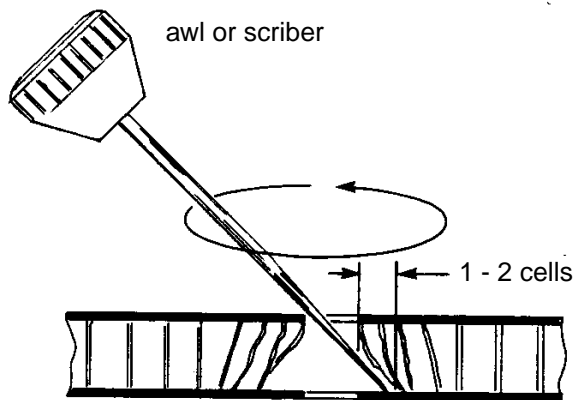

Fig. 3 - A
- 5.2.4 After final drilling, break back the honeycomb core cells in the facing panel 1 - 2 cell widths around the hole by inserting a suitable scriber or awl into the hole at an angle of approximately 45° and rotating the tool around the hole 2 or 3 times to break and crush the core cells approximately as shown in Figure 3-A. If the facing panel incorporates a foam core in the area the panel pin is to be installed, break back the foam core approximately 1/4" - 1/2" around the hole in the same manner as for honeycomb core (see Figure 3-B).